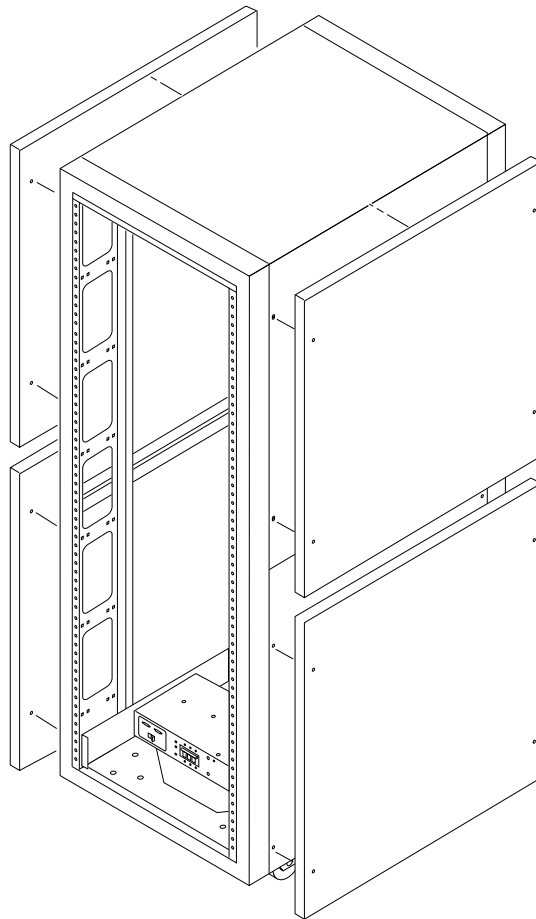

FIGURE 5-1 Removing and Replacing the Side Panels
- Use an Allen wrench to loosen the four 1/4-inch shoulder screws that fasten the panel to the storage system, and then remove the panel from the storage system (FIGURE 5-1).
2. Use an Allen wrench to tighten the four 1/4-inch shoulder screws to fasten the panel to the storage system (FIGURE 5-1).